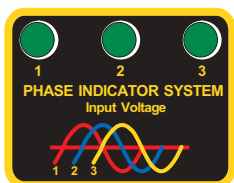

Figure 4.5
1. Toggle the circuit breaker on the back panel to “ON”. Three green lights on the front panel should illuminate indicating 3-phase installation, 2 green lights for 1-phase installation (*fig. 4.5*)